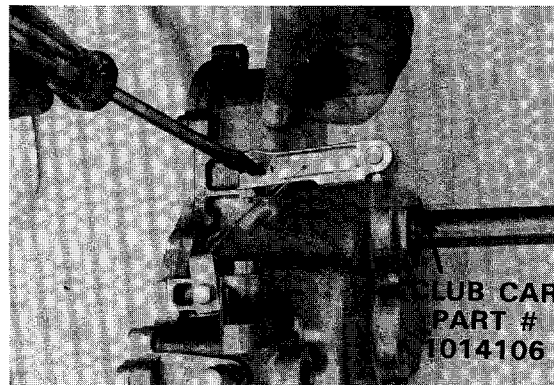

Figure 10-26
13. Install the governor arm pivot (11) to the external governor arm (13) with bolt (12).
14. Install bolt (10), washer (14) and nut (15) to external governor arm (13).
15. Place the external governor arm (13) on to the governor arm shaft (18). Do not tighten nut (15).
16. Place the external governor arm alignment tool on the transmission, CLUB CAR part # 1014106 (Figure 10-26).
17. Press the external governor arm (13) until 0.27 inches of the governor arm shaft (18) extends above the governor arm.
18. Using a flathead screwdriver, rotate the governor arm shaft (18) counterclockwise until it stops.
19. Align the external governor arm (13) with the red line on the external governor arm alignment tool. The red line should be in the center of the external governor arm shaft (Figure 10-26). Before tightening, be sure the external governor arm is .27 inches below the top of governor arm shaft (18), and governor arm shaft (18) is in full counterclockwise position. Tighten nut (15) to 35-52 in.-lbs.